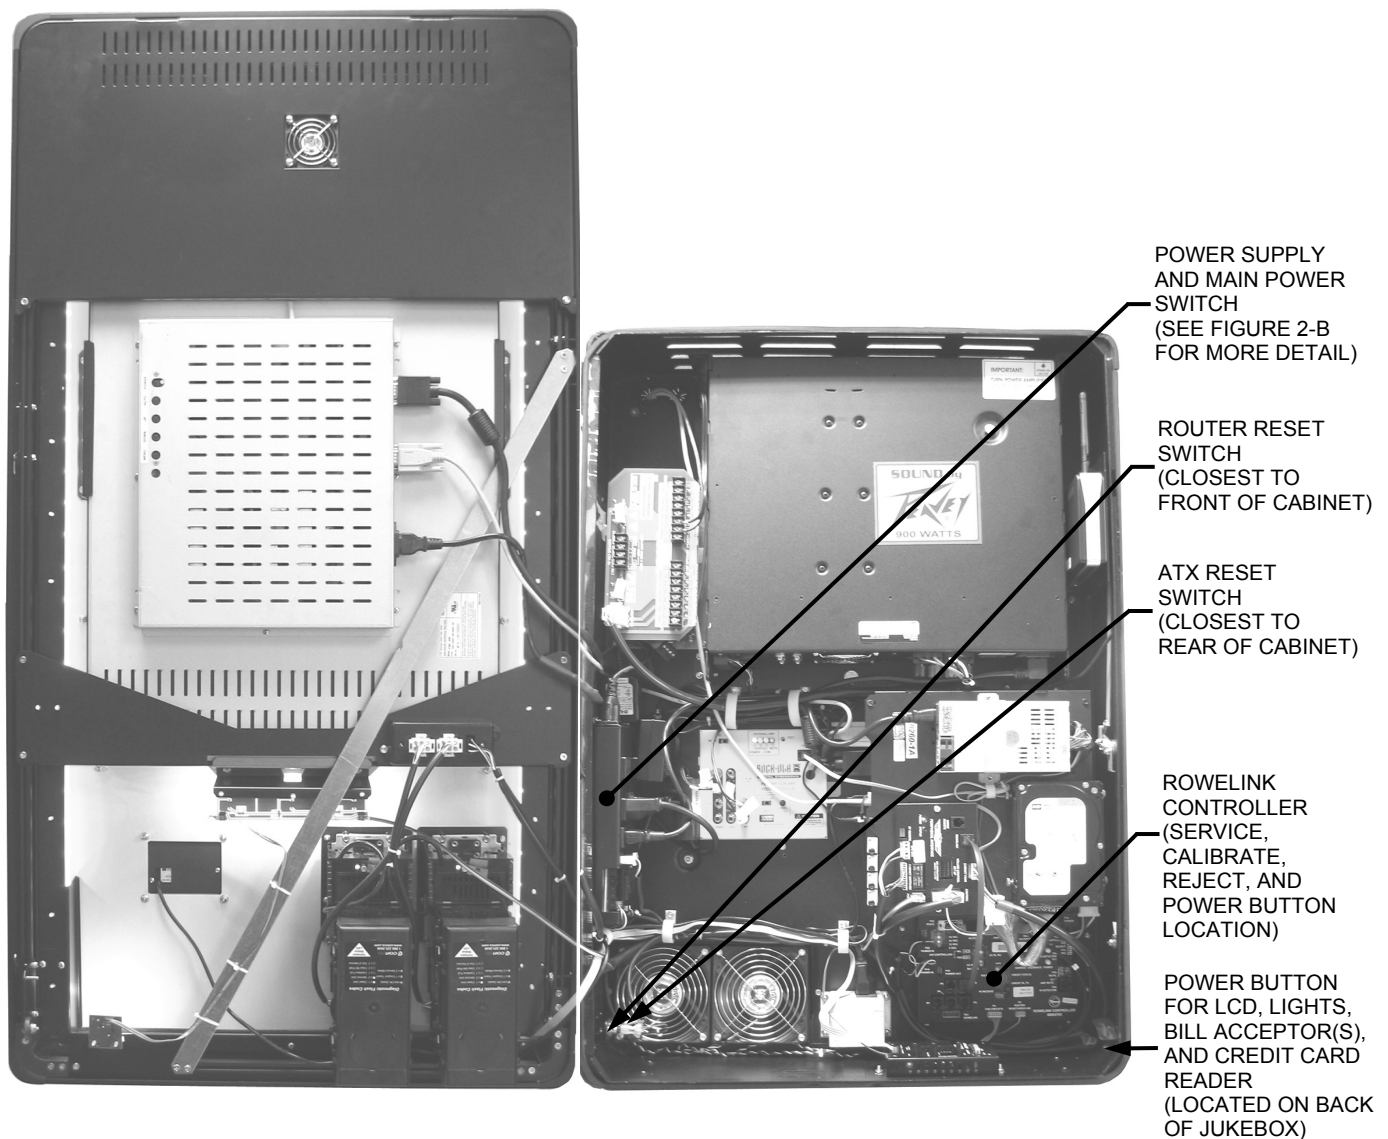
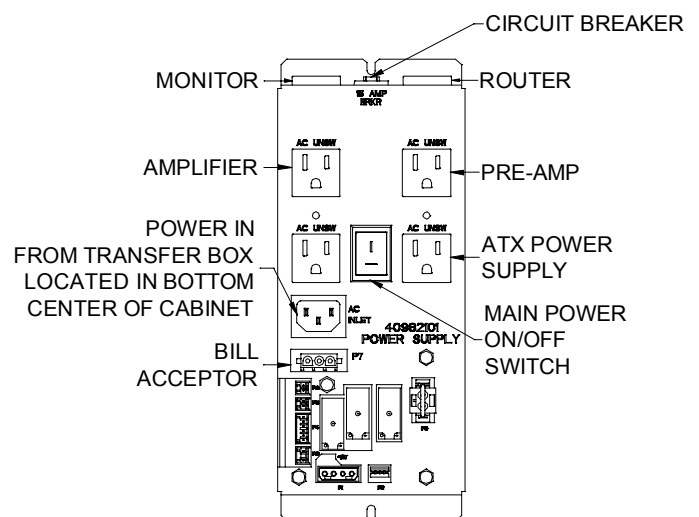

Figure 1-B – Inside View of Jukebox
Figure 2-B – Detail View of Power Supply
The Rock-Star Lx is powered from a standard 115VAC wall plug using the provided power cord. Inside the jukebox, power is routed to a Power Supply assembly located on the left-hand side of the cabinet (see *Figure 2-B*). This power supply includes a 15A circuit breaker and the Main Power ON/OFF switch. All other components in the jukebox are powered by plugging them into this power supply.
- **Power Button** – The Power Button is located on the outside lower-right corner on the back of the cabinet (see *Figure 1-B*). Push this button to enter the soft power down mode, push it again to exit the soft power down mode.
- **Rowelink Controller Power Button** – The button labeled “POWER” on the Rowelink Controller inside the jukebox (see *Figure 1-B*) works in the same way as the Power Button located on the back of the cabinet.
The jukebox core computer can be powered off by pressing the “SERVICE” button on the Rowelink Controller (see *Figure 1-B*), and then touching “Shutdown Jukebox” on the touchscreen. This will turn off the core computer and other components that get their power from the ATX power supply on the core computer. To restore power after turning off the ATX power supply, the jukebox must be rebooted. Reboot the jukebox by toggling the Main Power ON/OFF switch off (see *Figure 2-B*), and then back on, or by pushing the ATX Reset Switch (see “Reset Switches”).
There are also hidden reset switches located inside the cabinet on the lower left side (see *Figure 1-B*). These are accessible by either opening the jukebox door, or by inserting a paper clip, toothpick, or other long, thin object through the access holes on the left side of the jukebox.
- The **ATX Reset Switch** resets the computer core. It is the push-button located closest to the rear of the jukebox (see *Figure 1-B*). This is like the Reset Switch on a PC. Pressing and releasing this switch will cause the computer mainboard to completely reboot. Use this switch only if the jukebox is completely non-responsive.
- The **Router Reset Switch** resets the router and, if wired for it, your modem. It is the push-button located closest to the front of the jukebox (see *Figure 1-B*). If the Internet connection is lost for any reason, pressing and releasing this push-button switch may restore normal operation.